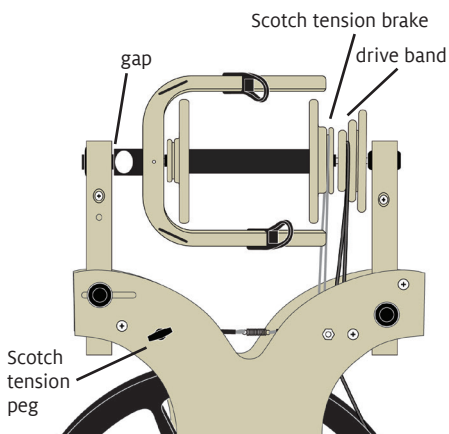

FIGURE 3: INSTALL BULKY FLYER
6. Add the bulky bobbin and a whorl to the bulky flyer. Orient the bulky bobbin with its large end at the back of the wheel, as shown in Figure 3.
8. Install the flyer on the wheel: Slide the flyer through the Scotch tension brake and the drive band (Figure 3). Place the flyer shaft in the rear bearing. Place the orifice in the front bearing, then slide back the front maiden until it rests against the front maiden stops. Tighten the quick release lever on the front maiden.
The front and rear maidens must be vertical and pushed tightly against their stops, as shown in Figure 3. When they are correctly positioned, there will be a gap of about 1/16" between the front bearing and the shoulder of the flyer shaft. If there is no gap, see "Troubleshooting" below.